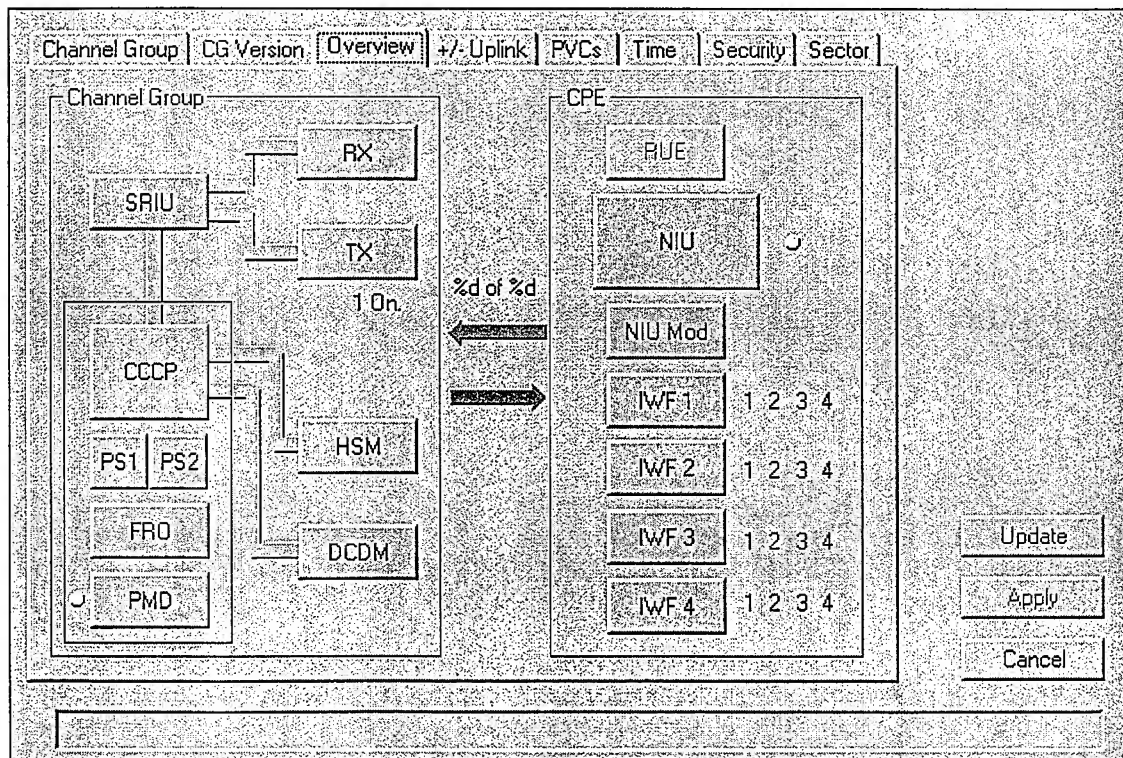
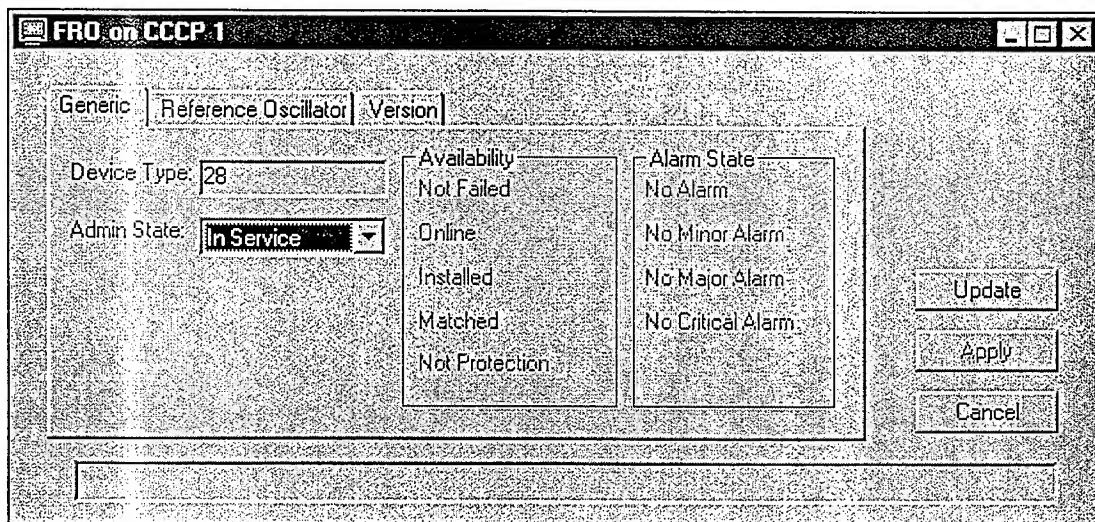
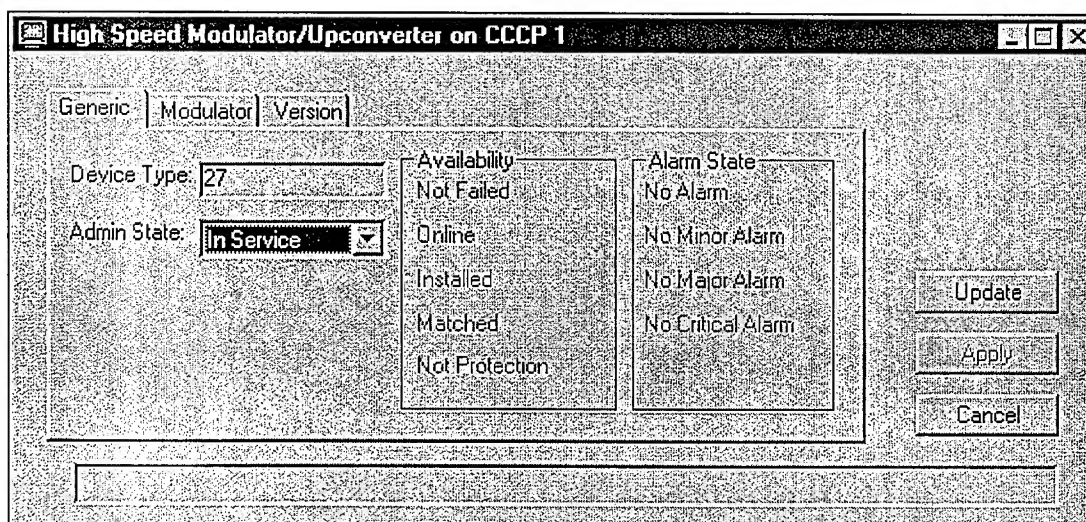

Figure 8. Channel Group Overview Tab
Figure 11. Reference Oscillator Window, Generic tab
Figure 13. High Speed Modulator/Upconverter Window Generic Tab
2. Select the Overview tab to display the Overview graphic (see Figure 8).
1. In the object tree pane (see Figure 8), click the FRO icon to open the Reference Oscillator window (see Figure 11).
1. In the object tree pane (see Figure 8), double-click on High Speed Modulator/Upconverter to open the High Speed Modulator window Generic tab (see Figure 13).